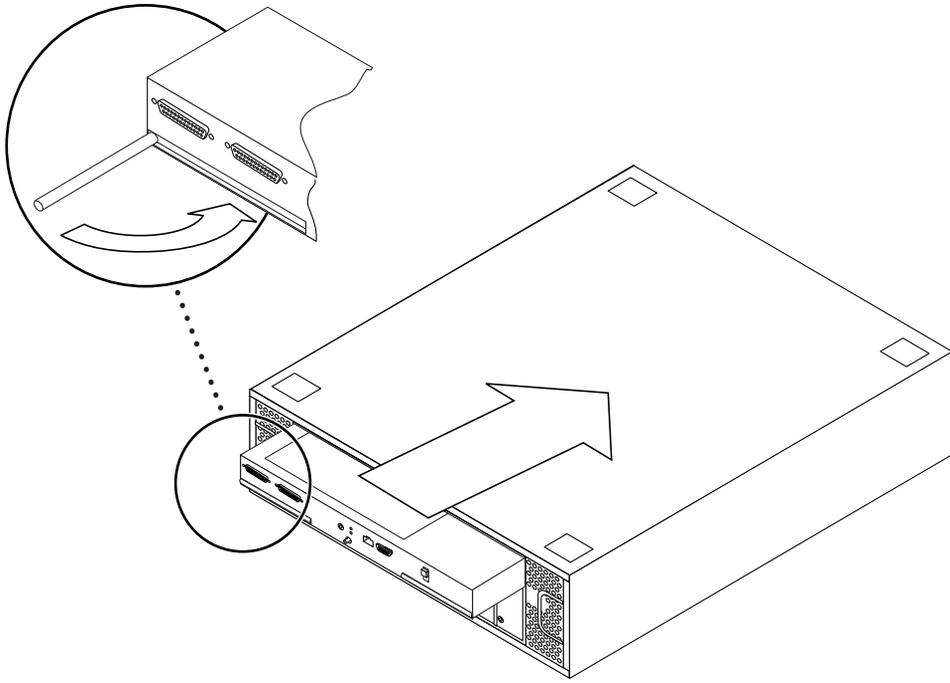

FIGURE 4-7 Installing the Controller Board
1. Slide the replacement controller board into the slot in the chassis (FIGURE 4-7). The top of the controller board has rails that fit into guide hooks in the chassis.
- 3. Push both handles inward until they are flush with the controller board** (FIGURE 4-7).